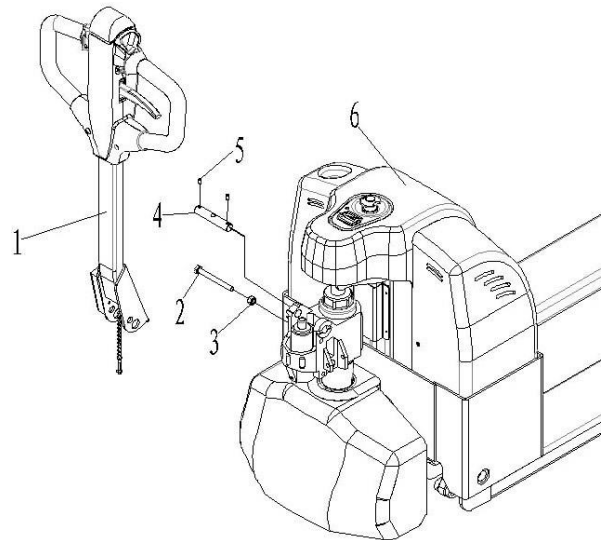

Fig. 5: SPT 15 tiller assembling
- c) Press the tiller arm down; unscrew and remove the screw (2) and the nut (3) (fig. 5).
- e) Use a hammer to insert the 2nd dowel pin (5, fig. 5) into the 2nd hole of the axle.